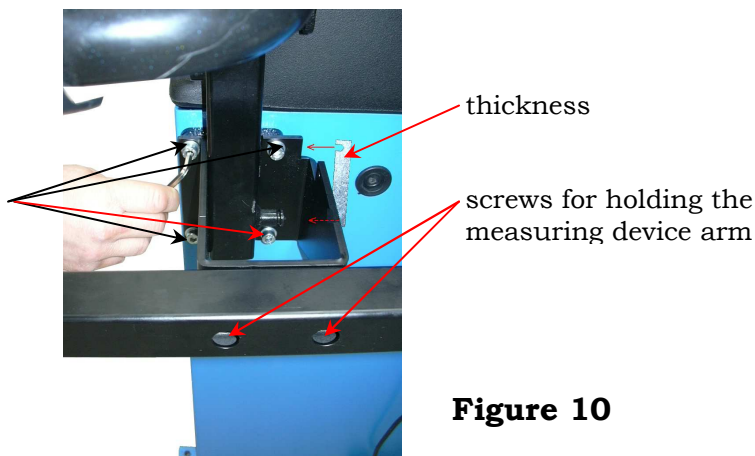
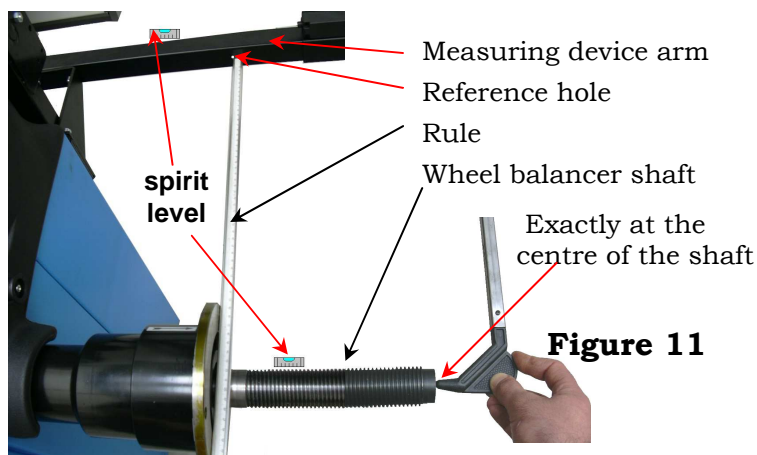

Figure 10
Figure 11
- ② Lock the measuring device arm by fastening the 2 screws shown in Figure 5. Lock these screws so the shaft and measuring device arm are at the same level (use a spirit level, see Figure 11). Make sure the small reference hole on the arm coincides with the flange table (use a rule, see Figure 11) Make sure the tip of the measuring device is positioned at the centre of the shaft. If necessary, fit a shim (provided) between 2 of the 4 screws that hold up the supports (see Figure 10 and Figure 11)